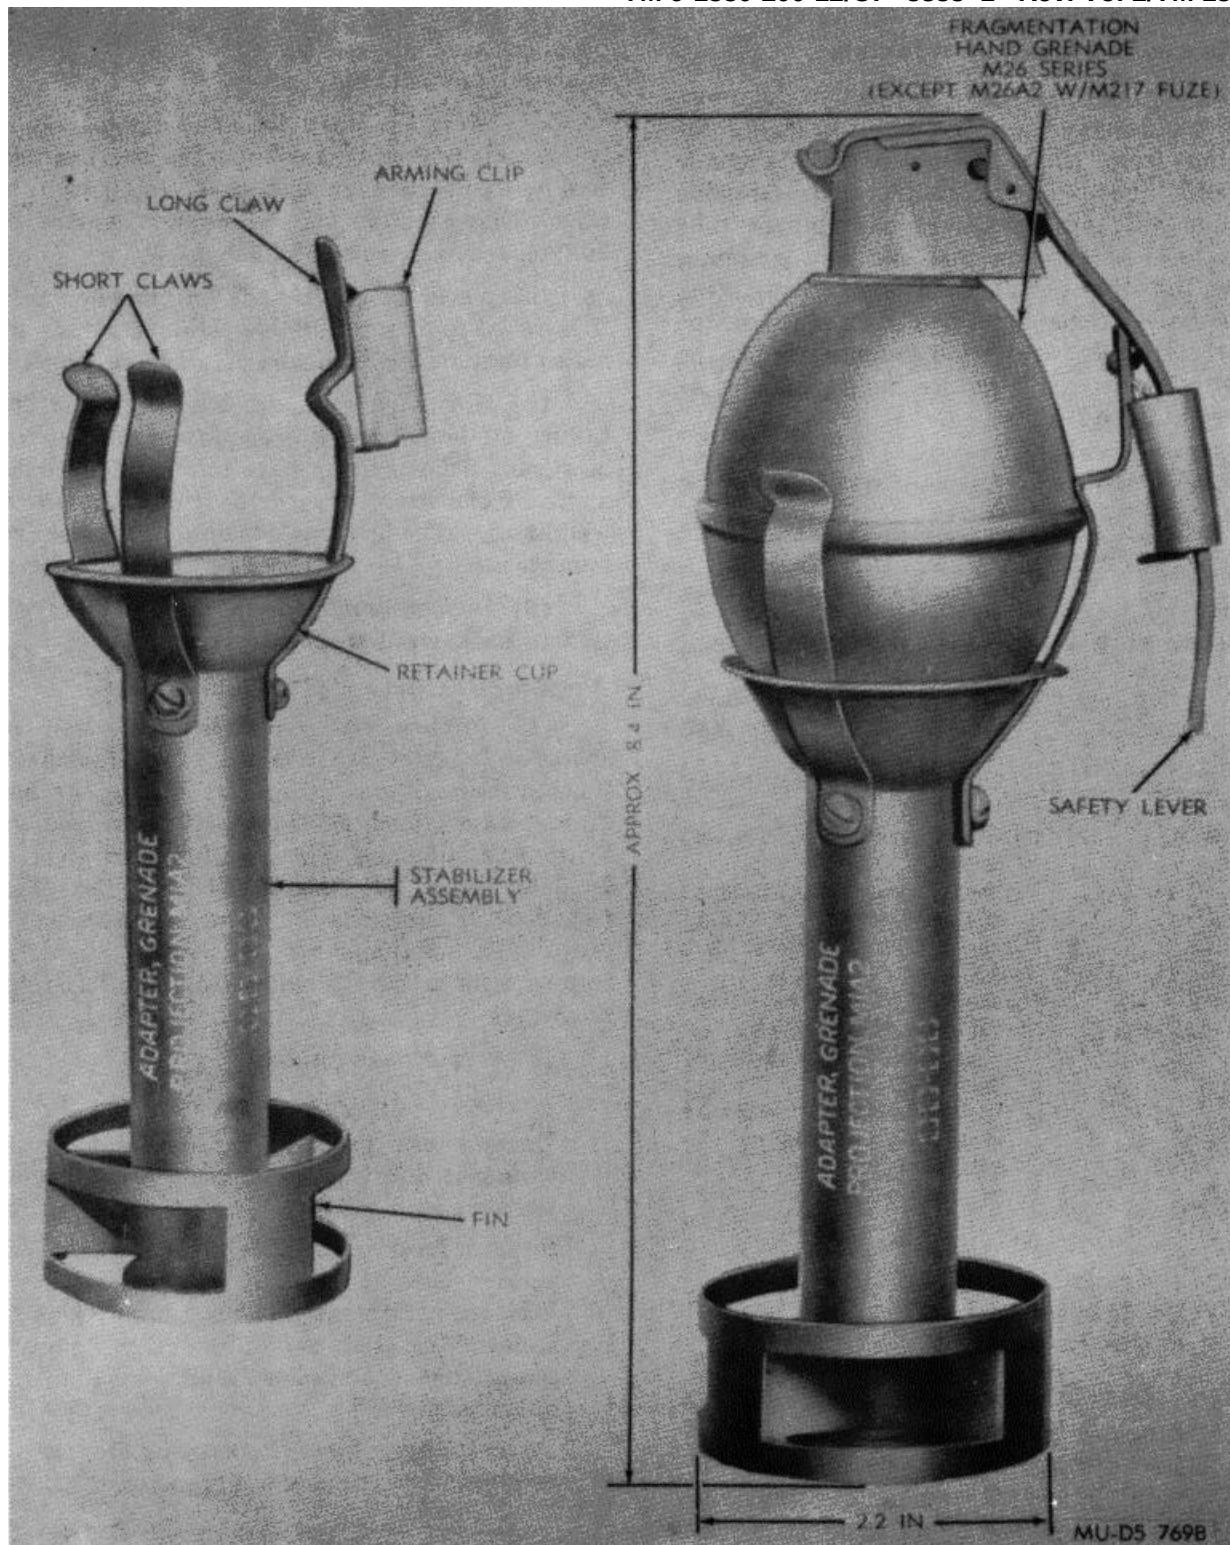

Figure 2-9. Grenade projection adapter M1A2.
(1) *Applications.* Grenade Projection Adapters M1 Series are used to adapt fragmentation, practice, illuminating and WP smoke hand grenades for launching from a rifle equipped with a grenade launcher. Three different models are available: the M1, the M1A1 and the M1A2 (fig. 2-9). Fragmentation hand grenades can be projected a maximum of 160 meters when fired from a rifle using Grenade Projection Adapters M1 Series.
(2) Preparation for use.